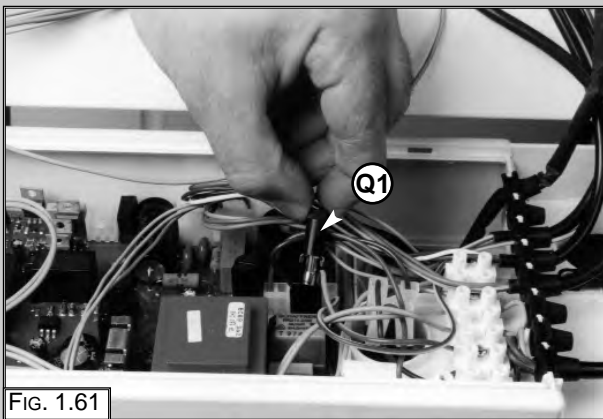

FIG. 1.61
2. Remove the fuses by pushing and rotating fuse holders "Q1" (FIG. 1.61).